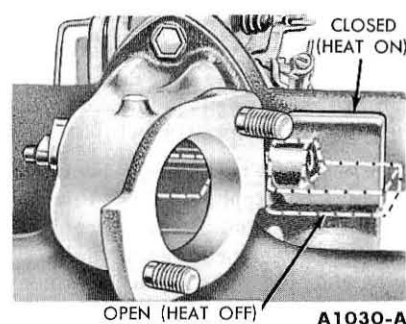

FIG. 3—223 Six Exhaust Gas Control Valve
4. Free the Exhaust Gas Control Valve. Refer to Fig. 3 or 4. Check the thermostatic spring of the valve to make sure it is hooked on the stop pin. The spring stop is at the top of the valve housing when the valve is properly installed.